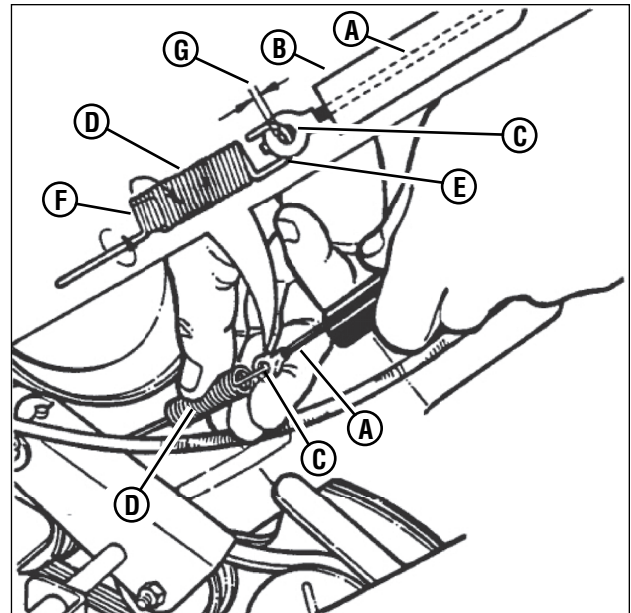

Figure 22: Wheel drive control adjustment
- The wheel drive control is properly adjusted when there is 1/16" to 1/8" clearance (**G**, **Figure 22**) between the inside of the spring hook (**E**) and the inside of the clutch cable eye (**C**) with the wheel drive control released.